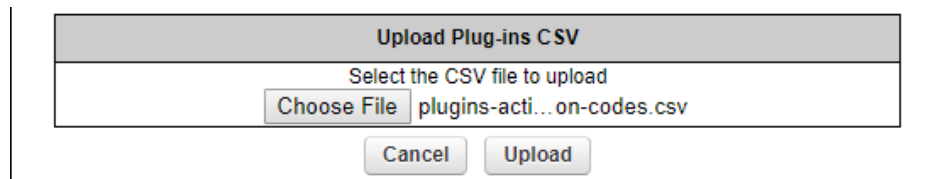

Figure 72. MANAGE PLUG-INS DIALOG (Upload Plug-ins CSV section)
7. Upload the *.CSV file to the unit by clicking the **Choose File** button in the **Upload Plug-ins CSV** section (Figure 72 (page 151)) and following the software prompts.